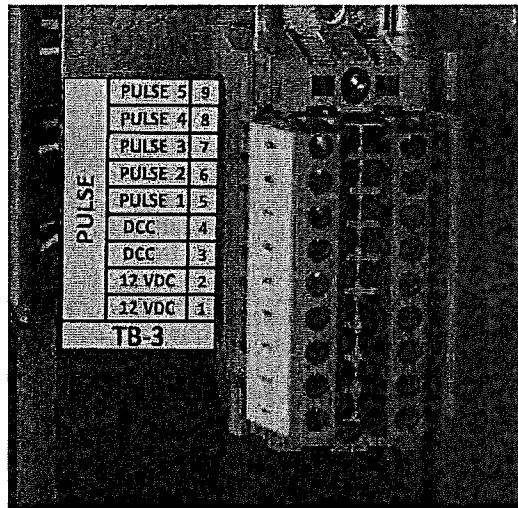

Figure 20. TB-3 12VDC Power and Pulsers
1. Connect the black wire from the shielded pulser cable coming from Pump 1 to position 4 on TB-3, labeled DCC (Figure 20).